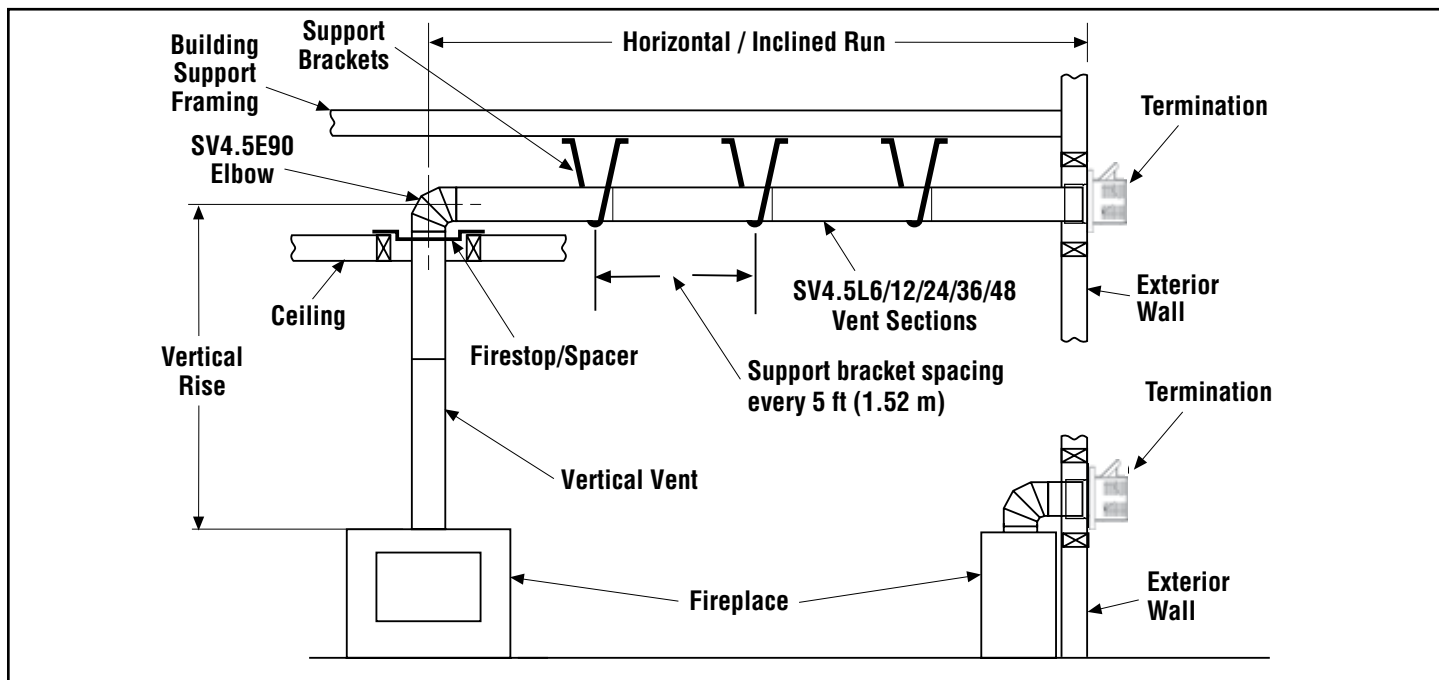

Figure 8 - Typical Horizontal Vent Installation
- 2. Support fireplace vent outlet with field provided support straps (Plumber's tape)**—Attach the straps to the vent pipe and secure to the framing members with nails or screws (*Figure 8*).
1. **Continue installation of horizontal/inclined sections**—Continue with the installation of the straight vent sections in horizontal/inclined run. Install support straps every 5 ft. (1.52 m) along horizontal/inclined run using conventional plumber's tape (**Figure 8, Page 14**). Maintain the horizontal/inclined run in a straight (no dips), slightly elevated plane. The recommended incline is approximately 1/4" per 1 ft (20 mm per 1 m) horizontal, in a direction away from the fireplace. Smaller rise per foot run ratios are acceptable all the way to at or near level. Use a carpenter's level to measure from a constant surface and adjust the support straps as necessary. Maintain the required clearances to combustibles (**Page 9**).